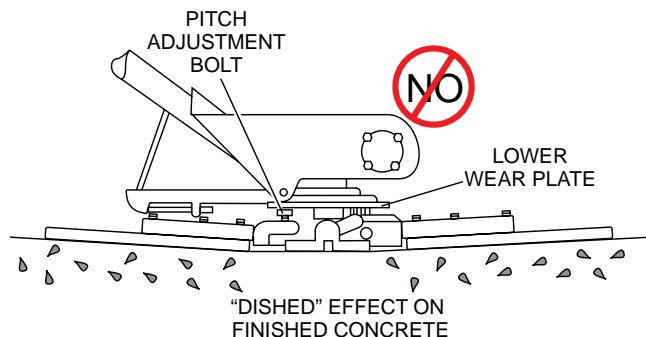

Figure 54. Incorrect Spider Plate Alignment
6. Figure 54 illustrates, “incorrect alignment”, worn spider bushings or bent trowel arms.